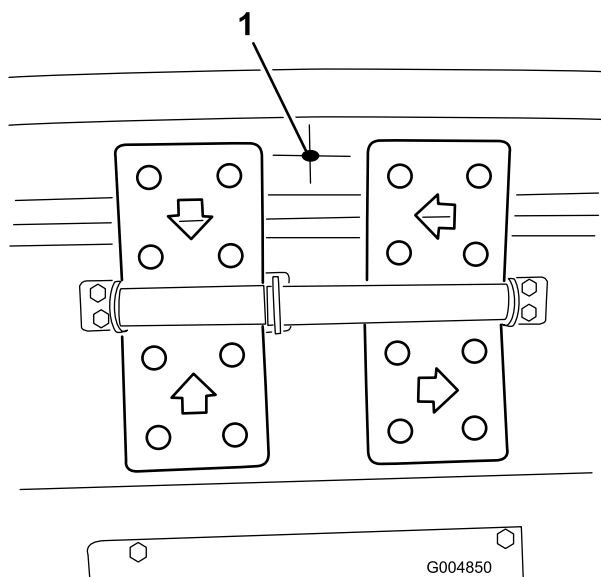

Figure 71
1. Locate, mark and drill a .281 inch diameter hole in the front wall of the cab as shown in Figure 71. The hole is to be located approximately in the center of the cab wall (side to side and up and down)